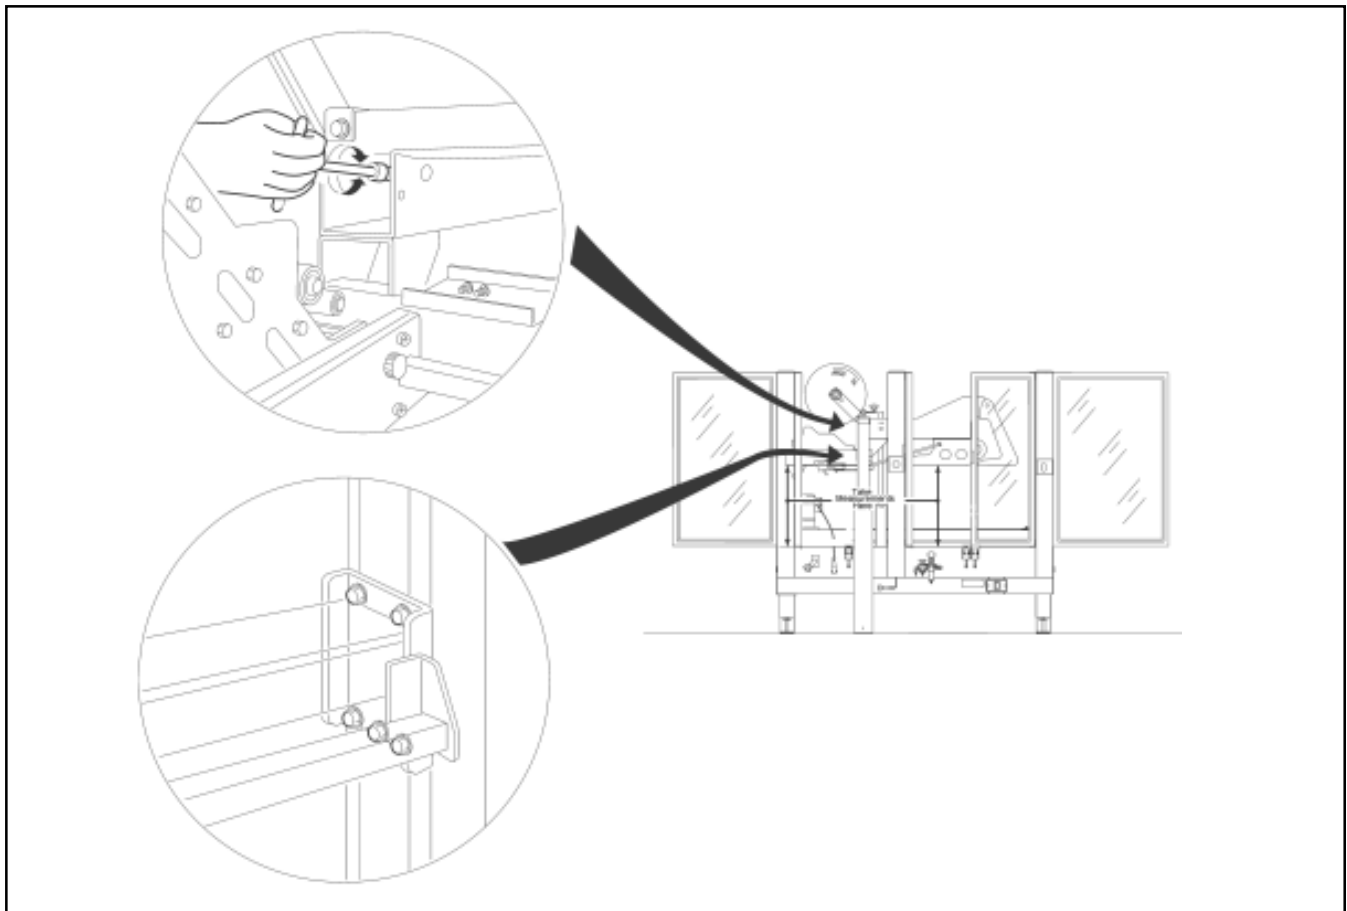

Figure 5-2 – Upper Taping Head Leveling
3. Take measurement from exit end of upper head assembly and front of flap folding ski to machine bed, as shown in Figure 5-2. Upper assembly must be level ± 1.5 mm [$\pm 1/16$ inch].